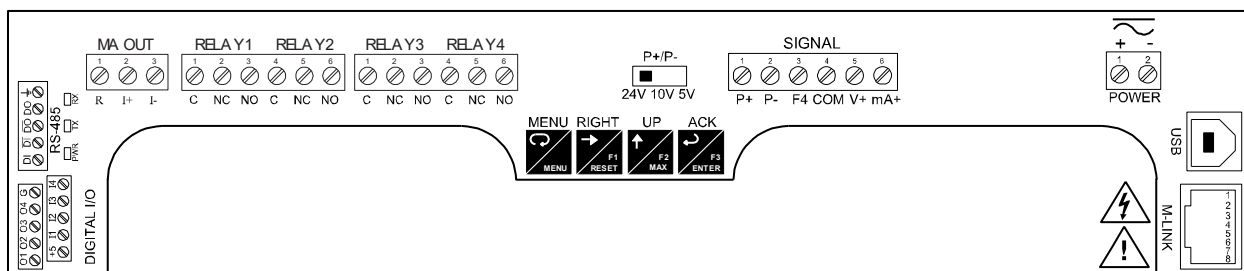

Figure 7. Connector Labeling for Fully Loaded PD2-6200
Power connections are made to a two-terminal connector labeled POWER on Figure 7 on page 13. The meter will operate regardless of DC polarity connection. The + and - symbols are only a suggested wiring convention.
Signal connections are made to a six-terminal connector labeled SIGNAL on Figure 7. The COM (common) terminal is the return for the 4-20 mA and the ± 10 V input signals.
Serial communications connection can be made to the onboard RS485 terminal block or USB connector shown in Figure 7. If RS232 is required, an RS485 to RS232 adapter (PDA7485) may be used. See Ordering Information on page 4 for additional information.
Relay connections are made to two six-terminal connectors labeled RELAY1 – RELAY4 on Figure 7. Each relay's C terminal is common only to the normally open (NO) and normally closed (NC) contacts of the corresponding relay. The relays' C terminals should not be confused with the COM (common) terminal of the INPUT SIGNAL connector.